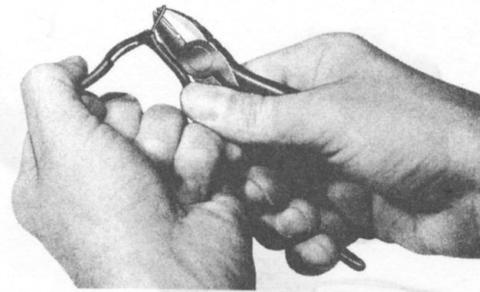

Fig. 7—Stripping D Station Wire
- (1) Use diagonal pliers to cut through jacket and insulation to expose conductors (Fig. 7).
- (2) Hold wire firmly with long-nose pliers, grasp two of the exposed conductors and pull, use conductors to split jacket to desired stripped length. Do not use diagonal pliers to pull conductor from the jacket. The wire will be damaged by cutting the surface during the slitting process.
the insulated conductors, being careful not to nick the conductor insulation (Fig. 7).